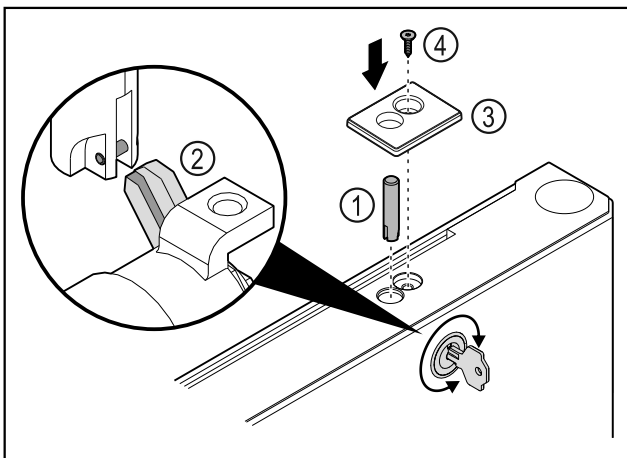

Fig. 37
- Put in the lock bolt Fig. 37 (1).
- Turn the lock slightly so that the lock bolt Fig. 37 (2) engages in the slot of the lock.
- Put in the cover Fig. 37 (3).
- Insert the screw Fig. 37 (4).